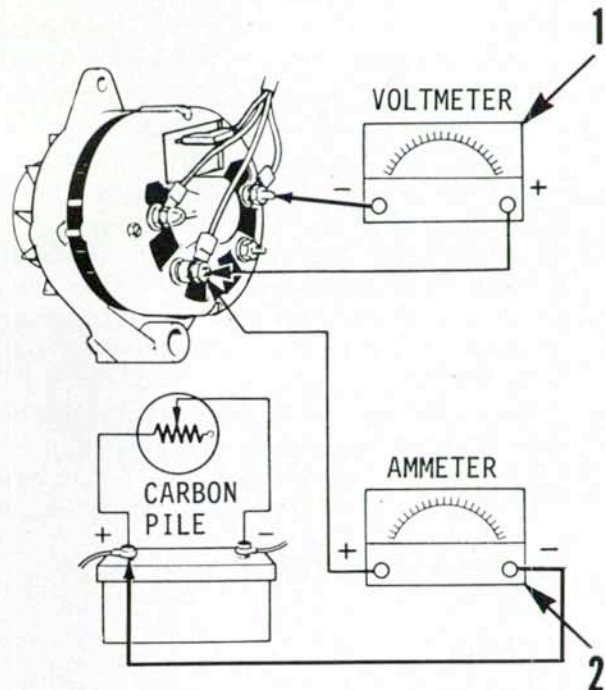

Fig. 146—To check alternator output, connect a voltmeter and ammeter as shown and use a carbon pile to load the battery. Refer to text.
**101. ALTERNATOR OUTPUT TEST.** With key switch OFF, connect voltmeter leads to alternator GROUND terminal and OUTPUT terminal as shown in Fig. 146. Connect ammeter positive lead to alternator OUTPUT terminal and negative lead to battery POSITIVE terminal. Connect a carbon pile across battery terminals.